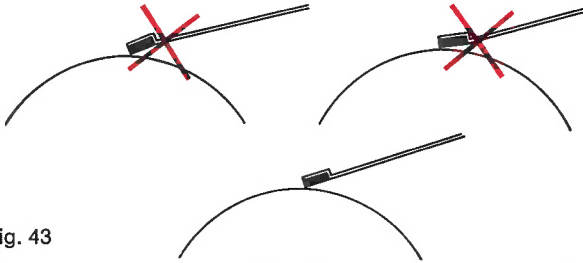
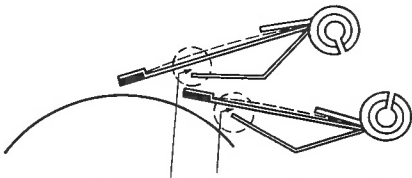
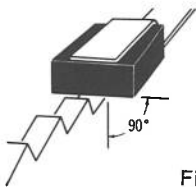
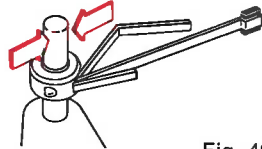

Fig. 43
Fig. 44
Fig. 45
Fig. 46
2. The contact surfaces of the index and pawl jewel must be parallel to their fingers (see fig. 43). Before engaging verify that fingers are slightly curved (see fig. 44). The two jewels must be perpendicular to the axis of the index wheel (fig. 45). To adjust, grasp finger and stress limiter as close as possible to the collet and bend slightly. The height of the jewel in relation to the index wheel, is adjusted by bending the posts. The teeth of the index wheel must be in the center of each jewel. If necessary, correct by bending finger posts (fig. 46) with tool #22010.
3. Check stress limiters on index and pawl finger. Make sure the end of the stress limiter is away from its finger by not more than 2 times its thickness nor less than one thickness before engagement. (Fig. 44).
1. Turn index finger collet until jewel is completely disengaged from wheel. Check gap between gage and index finger (fig. 44). The gage should be AS CLOSE AS POSSIBLE but not touching the finger. Adjust by bending gage near collet to a maximum of one finger thickness.